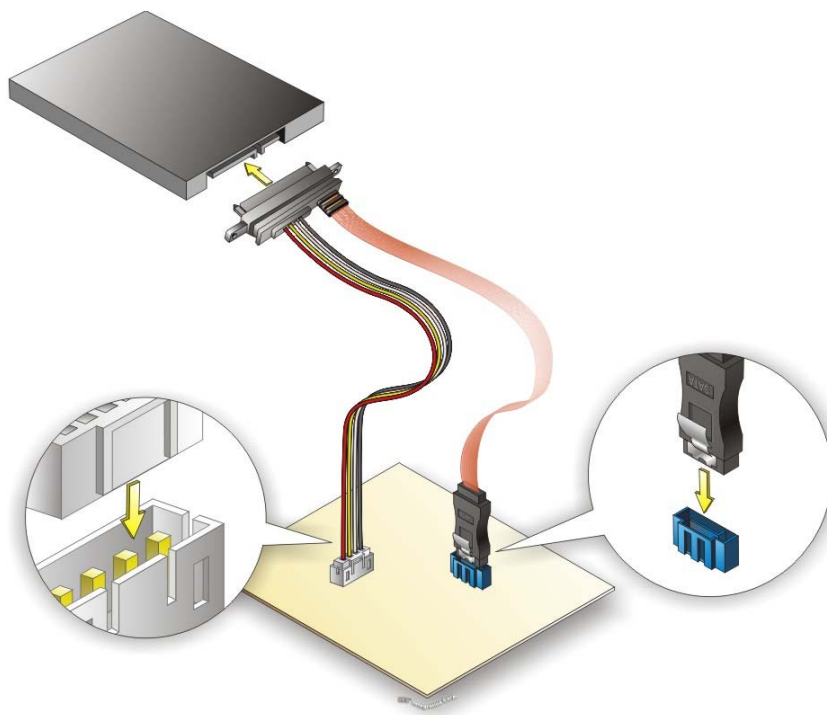

Figure 4-24: SATA Drive Cable Connection
Step 2: Insert the cable connector. Insert the cable connector into the on-board SATA drive connector and the SATA power connector. See **Figure 4-24**.
Step 3: Connect the cable to the SATA disk. Connect the connector on the other end of the cable to the connector at the back of the SATA drive. See **Figure 4-24**.